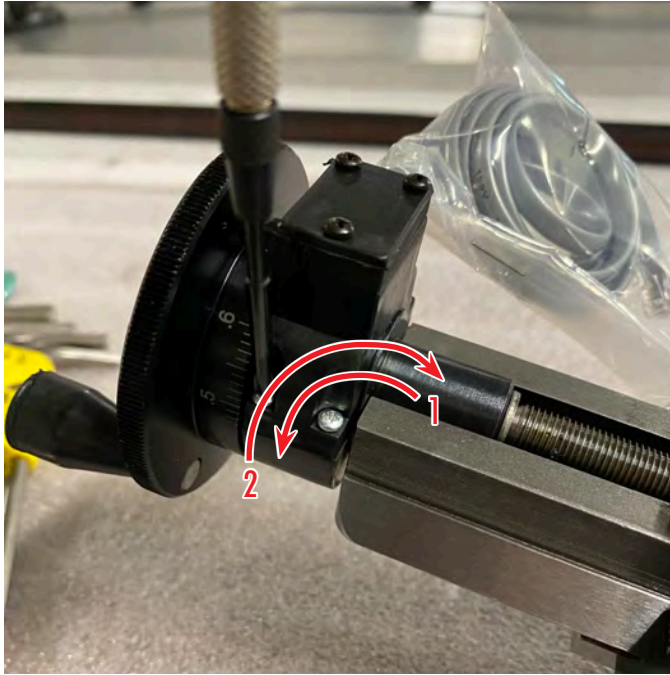

FIGURE 55—NOTE: The housing is plastic. Do not overtighten the screws or you will strip the threads out of the housing. Just tighten them until they are snug.
11. The (4) mounting screws are self-tapping screws and the DRO housing is plastic. There are already threads in the housing from the initial assembly. Turn the screws CCW until you feel the thread of the screw click into the existing threads in the DRO housing. Then tighten the screws. If you don't align the screw threads with the threads in the housing, you will cross thread the threaded holes in the housing. Before you tighten the screw, rotate the housing so the bottom of the housing is facing straight back from the backside of the bed (see Figure 55).